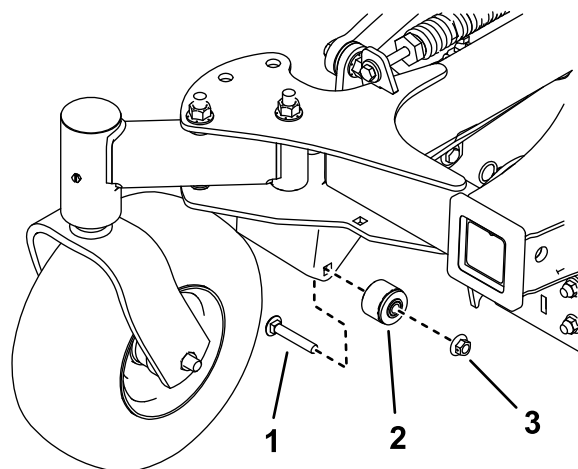

Figure 25
9. Remove both bushing assemblies (Figure 25).